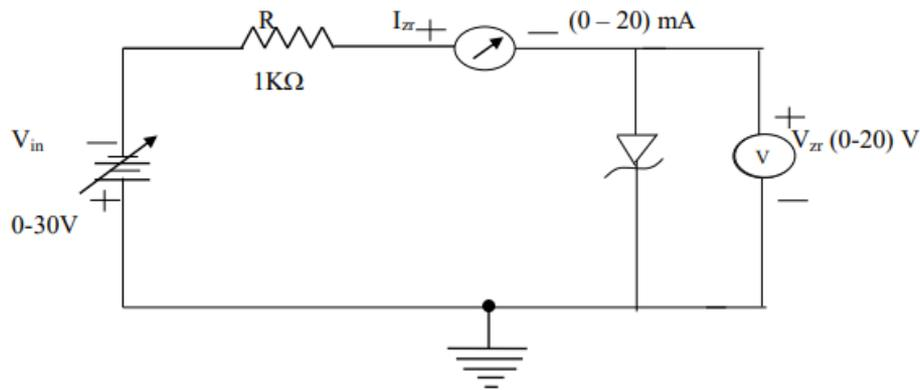

Fig. 2: Reverse Bias Condition:
1. Connect the circuit as per the circuit diagram figure 2.